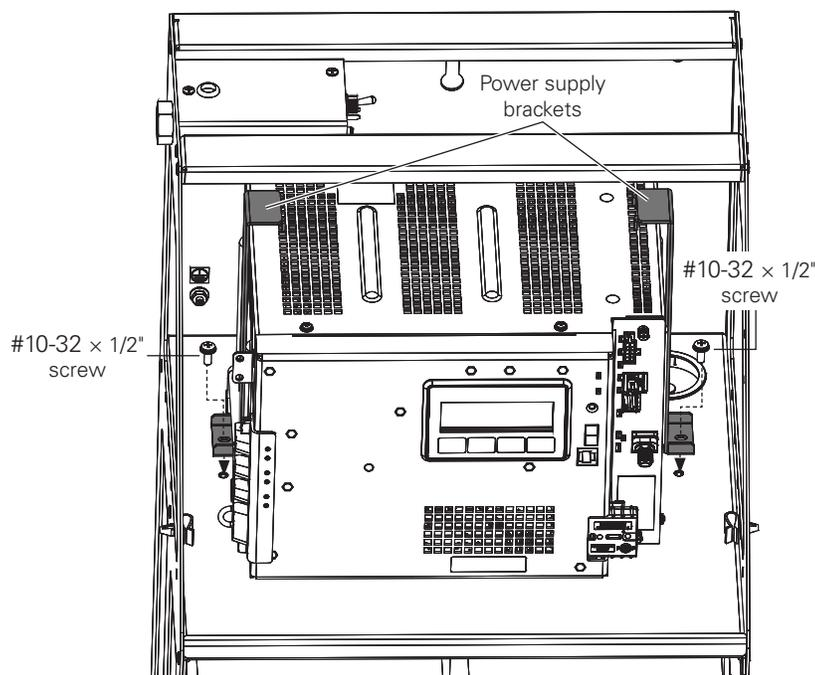

Fig. 14, Installing Power Supply Brackets
5. Install the XM3.1-HP™ power supply and place the brackets on either side, securing them in place with supplied #10-32 × 1/2" screws (Fig. 14).